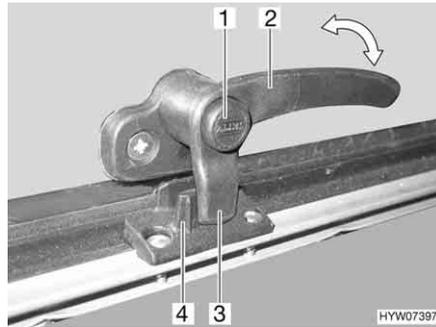
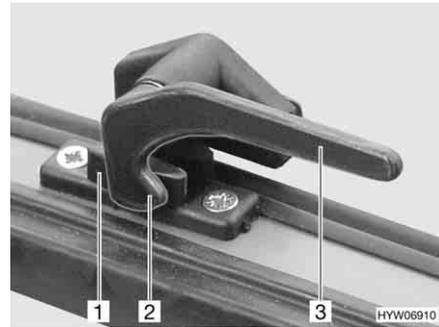

Fig. 93 Catch lever with safety knob in "closed" position
Fig. 94 Catch lever in "closed" position
- Press and hold the security button (Fig. 93, 1), if present.
- Turn the catch lever (Fig. 93, 2 or Fig. 94, 3) a quarter turn towards the centre of the window.
- Turn the catch lever (Fig. 93, 2 or Fig. 94, 3) a quarter turn towards the window frame. The locking catch (Fig. 93, 3 or Fig. 94, 2) on the catch lever is entirely on the inner side of the window catch (Fig. 93, 4 or Fig. 94, 1).
- Firmly closed (Fig. 93 and Fig. 94)